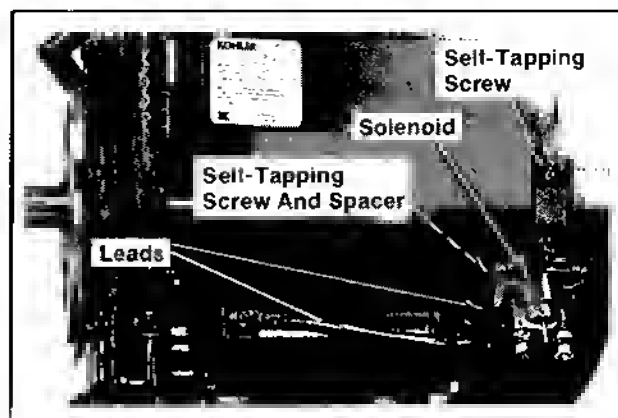

Figure 9-11. Removing Starter Solenoid.
3. Disconnect the leads from starter solenoid. Remove the wire tie, self-tapping screws, solenoid with bracket, and spacer. Refer to Figure 9-11.